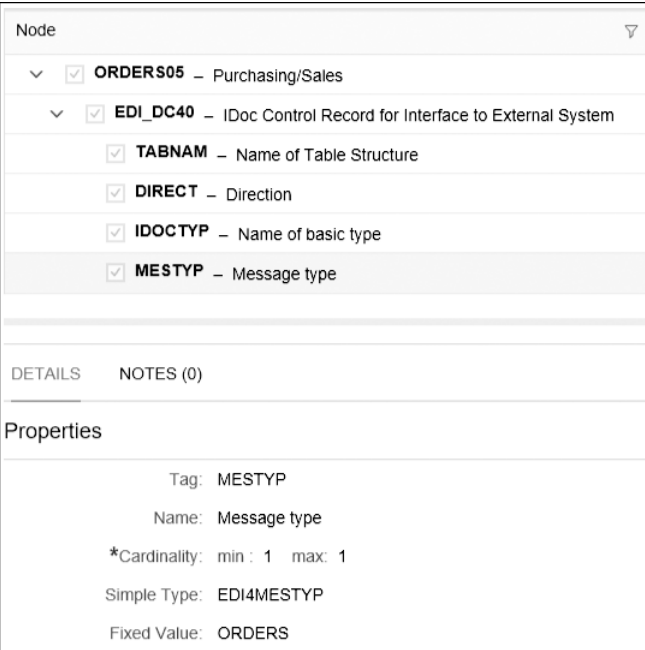

Figure 7.14 Defining a Fixed Value for the Message Type
7. For fields that have fixed values in your scenario, you can a define **Fixed Value** in the **Properties** section (Figure 7.14). Those values will be mapped automatically later in the MAG configuration.